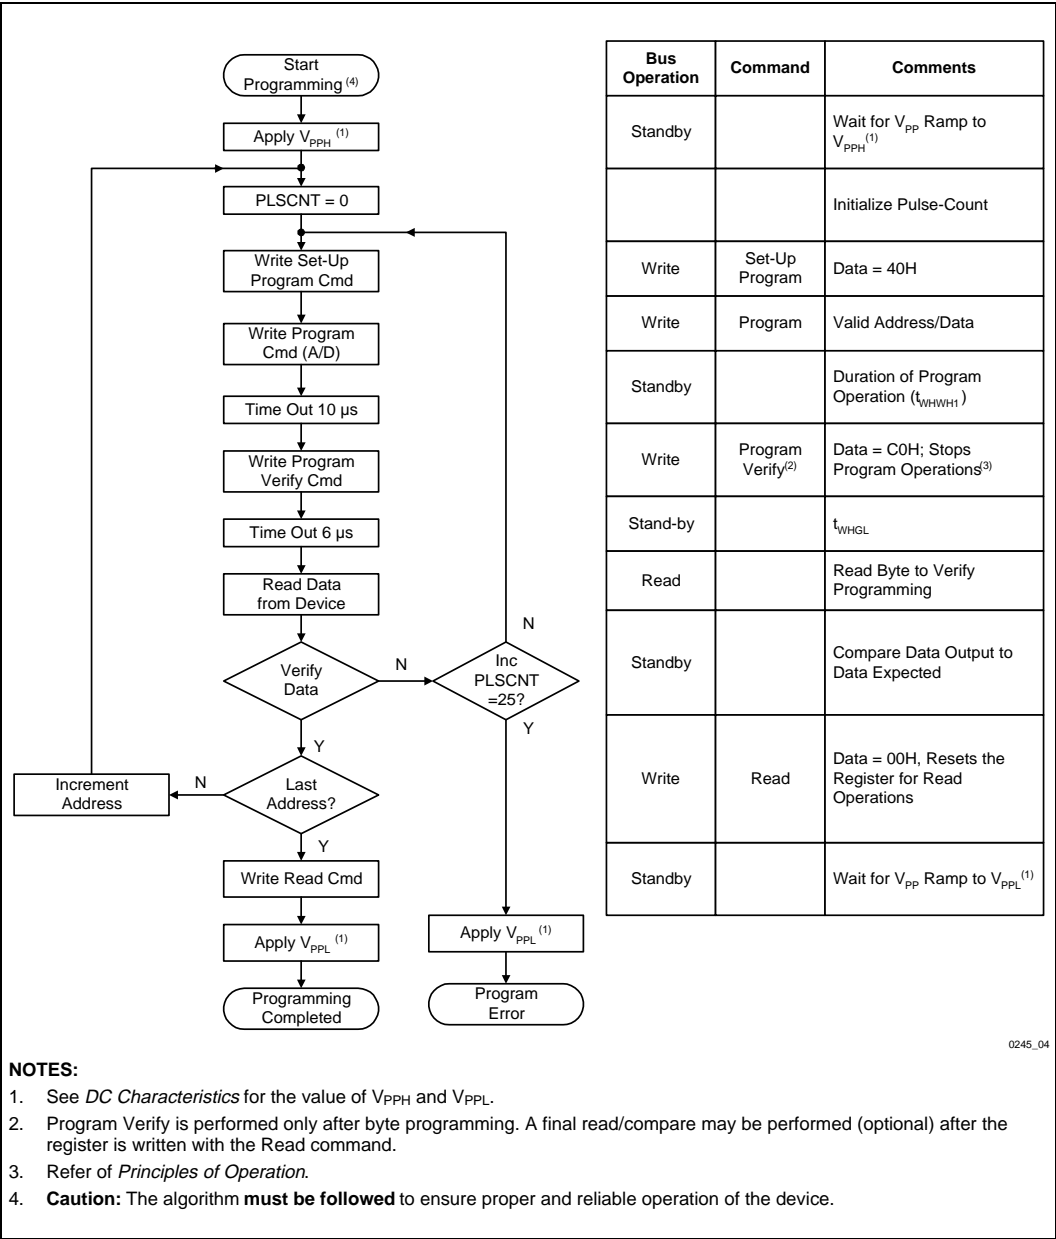

Figure 4. 28F020 Quick-Pulse Programming Algorithm
- Figure 4 illustrates the *28F020 Quick-Pulse Programming Algorithm* flowchart.
between the programmed byte and true data means that the byte is successfully programmed. Programming then proceeds to the next desired byte location. Figure 4, the *28F020 Quick-Pulse Programming Algorithm* flowchart, illustrates how commands are combined with bus operations to perform byte programming. Refer to *AC Characteristics—Write/Erase/Program Only Operations* and waveforms for specific timing parameters.
The quick-pulse programming algorithm uses programming operations of 10 μ s duration. Each operation is followed by a byte verification to determine when the addressed byte has been successfully programmed. The algorithm allows for up to 25 programming operations per byte, although most bytes verify on the first or second operation. The entire sequence of programming and byte verification is performed with V_{PP} at high voltage. Figure 4 illustrates the *28F020 Quick-Pulse Programming Algorithm* flowchart.